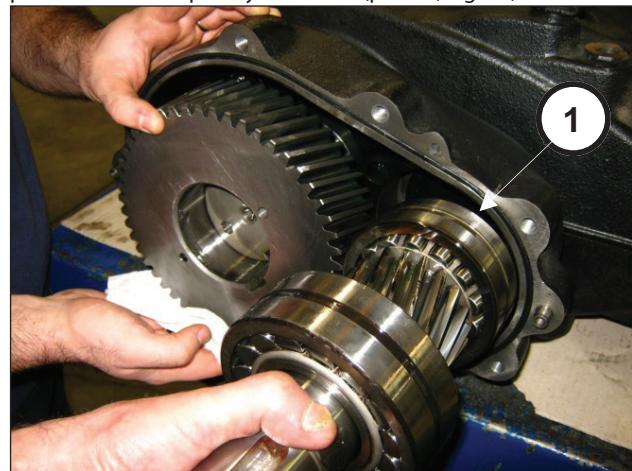

Fig. 13
Work alternately on the two extractor hammers until the pinion unit is completely extracted (pos. ①, Fig. 13).